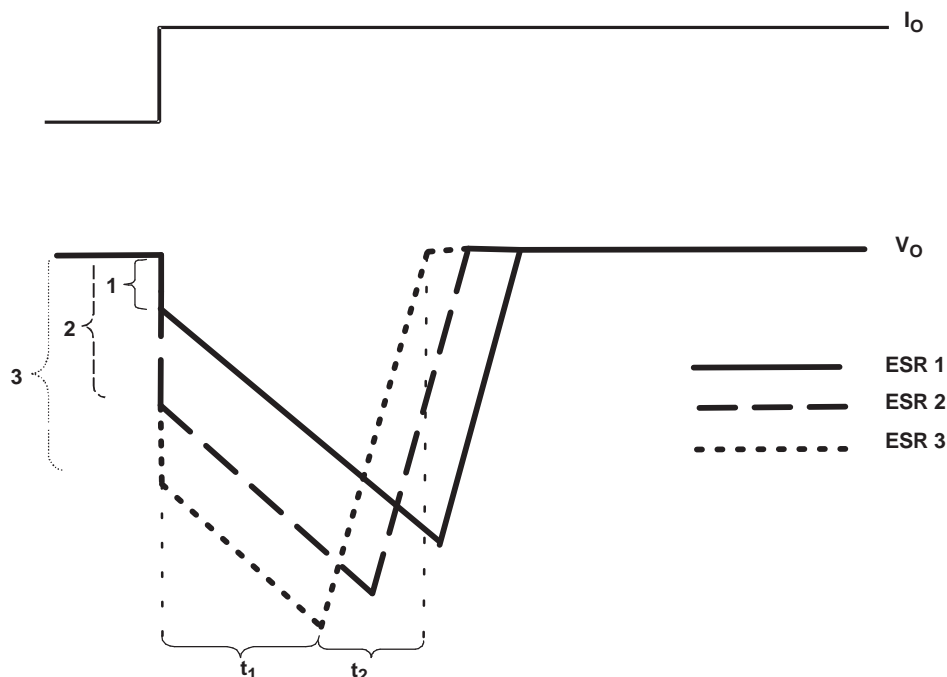

Figure 35. Correlation of Different ESRs and Their Influence on the Regulation of  $V_O$  at a Load Step from Low-to-High Output Current
- When  $C_O$  is conducting current to the load, initial voltage at the load will be  $V_O = V_{(CO)} - V_{ESR}$ . Due to the discharge of  $C_O$ , the output voltage  $V_O$  drops continuously until the response time  $t_1$  of the LDO is reached and the LDO resumes supplying the load. From this point, the output voltage starts rising again until it reaches the regulated voltage. This period is shown as  $t_2$  in Figure 35.
Figure 35 also shows the impact of different ESRs on the output voltage. The left brackets show different levels of ESRs where number 1 displays the lowest and number 3 displays the highest ESR.